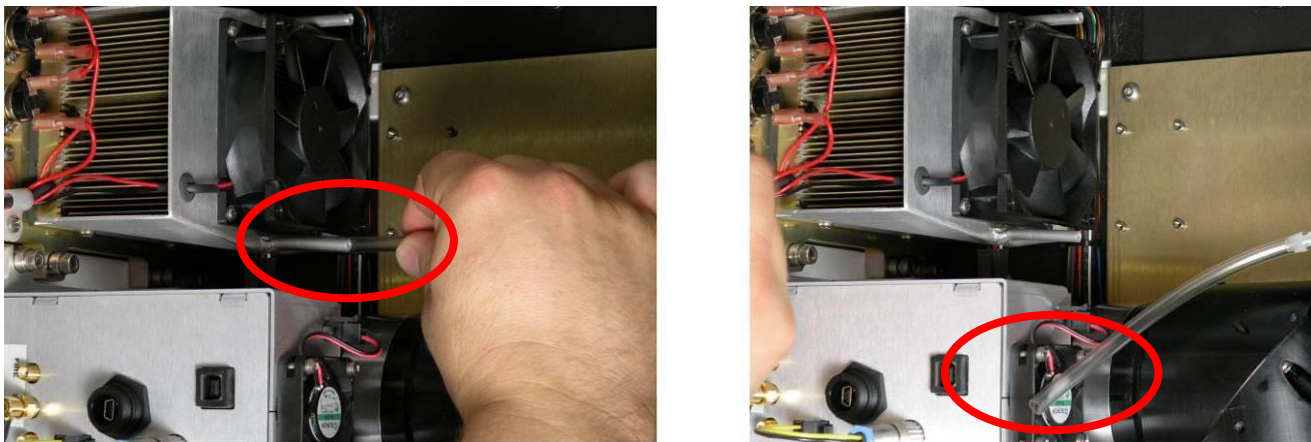

Figure 104. Disconnect condensate drain line
4. Disconnect the condensate drain line (Figure 104).